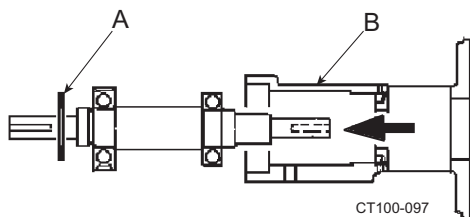

Figure 46 - Bearing Shaft Assembly Removal
10. Push the shaft and bearing assembly out of the housing from the impeller end. (Figure 46).
11. Remove the retaining ring and press the bearings off the shaft (Figure 46, items A and B).